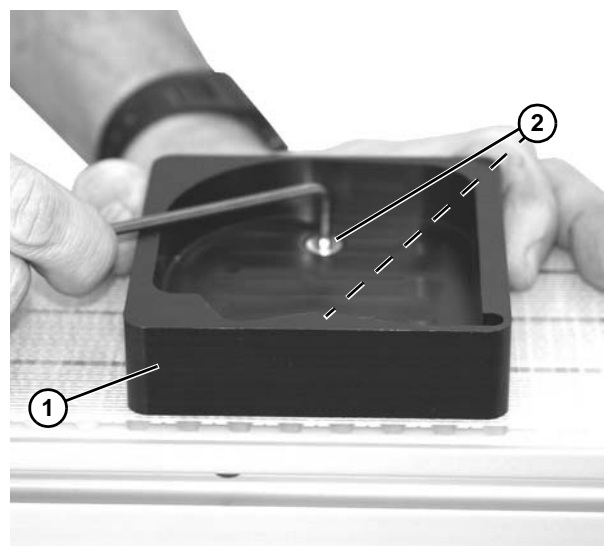

Figure 15
3. Install pallet (Figure 15, item 1) onto mounting inserts, and secure with M5 hex screws (Figure 15, item 2). Tighten M5 screws to 35 in-lb (4 Nm).